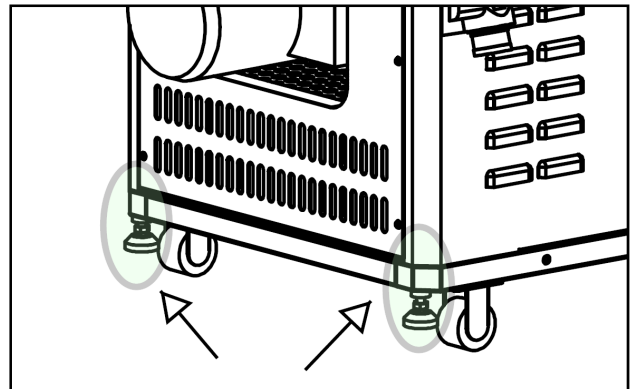

Fig. 6
*To avoid serious injury, engage the two rubber feet once the machine is in its final position to prevent unexpected movement (See Fig 6).*